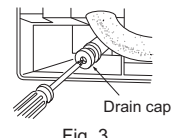

Fig. 3
- When connecting the drain hose to the hard vinyl chloride pipe, be sure to insert it securely into the pipe. (Fig. 3)
- Put the drain cap into the section to which the drain hose is to be attached at the rear of the indoor unit. (Fig. 3)